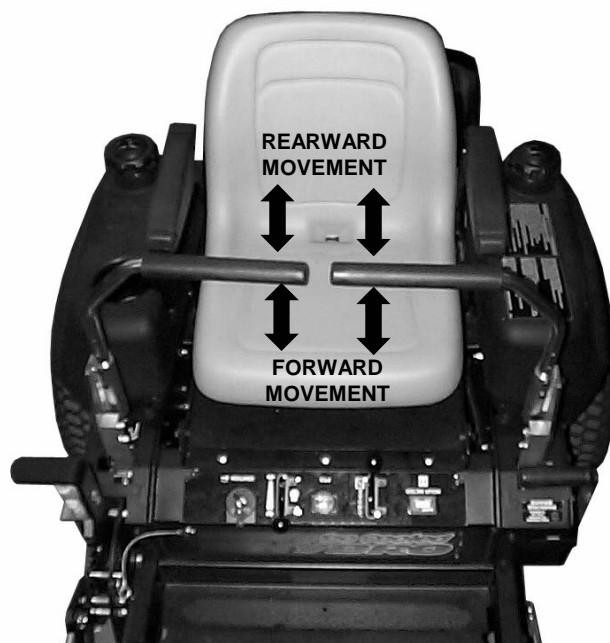

FIGURE 3.12
2. Move motion control levers gently and with caution in desired direction. See Figure 3.12.